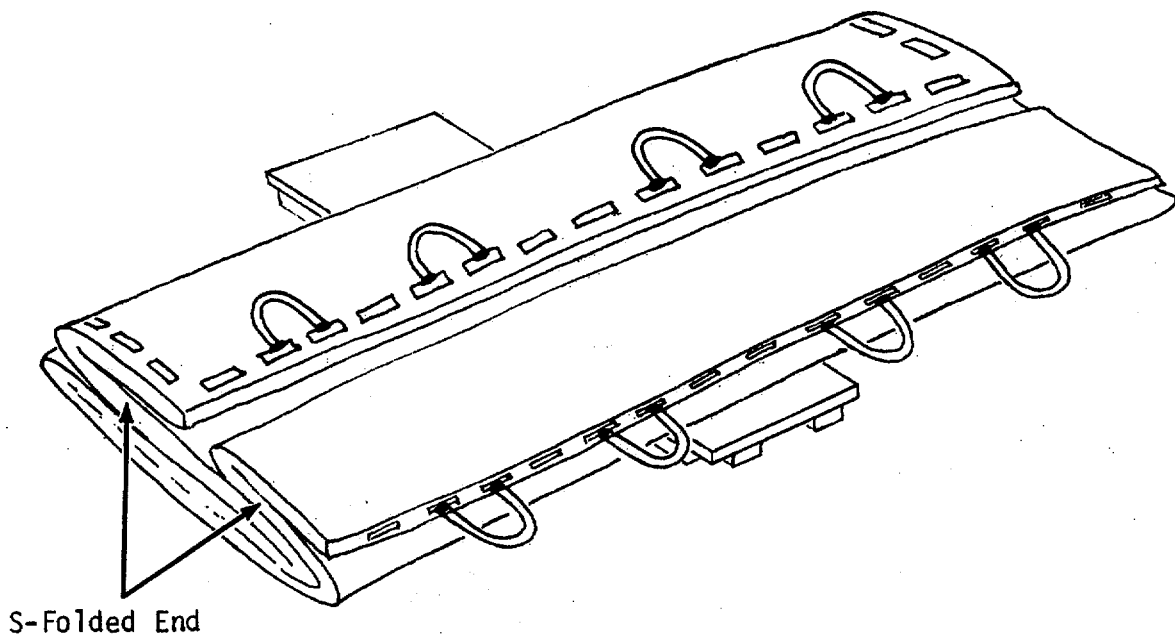

Figure 2-9. Tank Fully Unrolled
(1) Unroll remaining section of tank by pushing roll in opposite direction; tank will be fully unrolled. (See Figure 2-9.)
The site area must be diked to stop the flow of fuel in case of rupture or leakage. The tank may be filled before it is diked if the situation dictates. Normal procedure is to dike the site area before filling. An erected dike (Figure 2-9) should have the following characteristics: